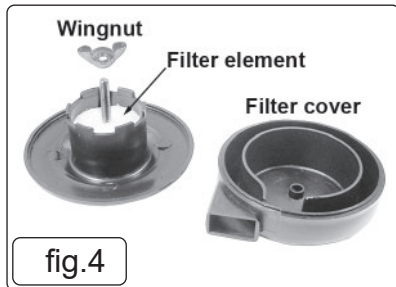

fig.4
- 4.2.2. Place a filter cover over each threaded rod protruding from the back half of the filter and secure each with a wing nut (fig 4).
B: Remove the filter elements (fig 4) and clean with compressed air (wear eye protection). **DO NOT** operate the compressor without the filters as foreign bodies or dust could seriously damage the pump.